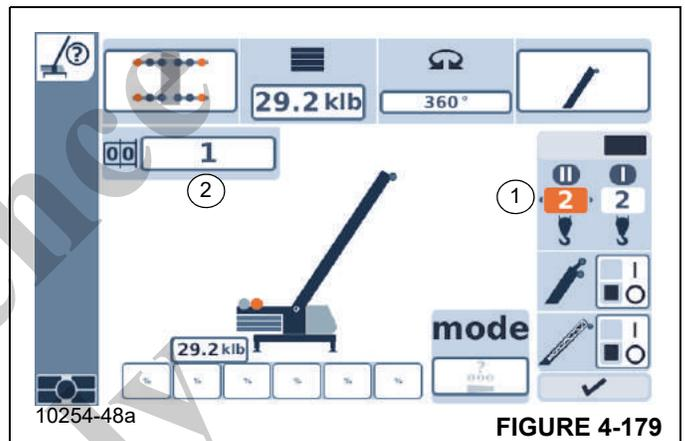

FIGURE 4-179
- Select and confirm the symbol (1, Figure 4-179) – arrows on the left and right are displayed.
The display shows the corresponding RCL code (2, Figure 4-179).